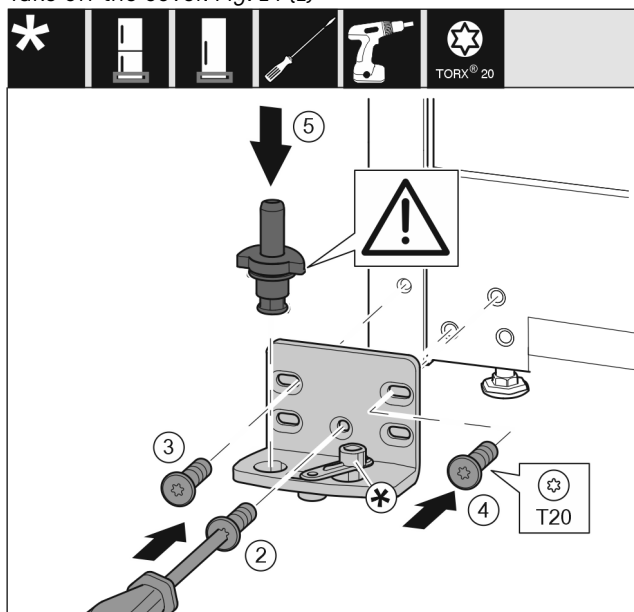

Fig. 15
- Place the bearing bracket on the other side and screw it in using the T20 screwdriver. Start with screw 2 at the bottom in the middle. *Fig. 15 (2)*
- Screw in screws 3 and 4. *Fig. 15 (3,4)*
- Insert the bearing pin completely. Make sure that the latching lug is pointing to the rear. *Fig. 15 (5)*